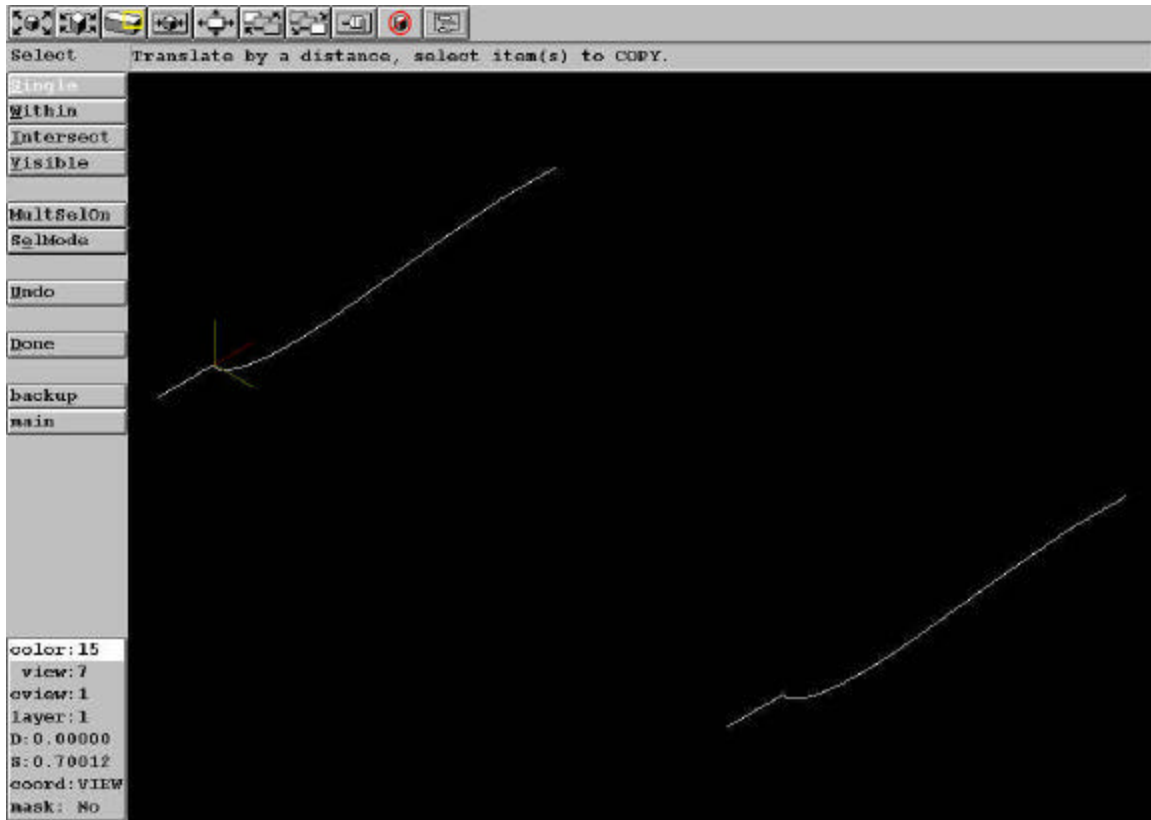

Figure 24: Mold progress after copying airfoil section
- 5.) Press the  button to see the results of the copy. Results should appear as in figure 24.